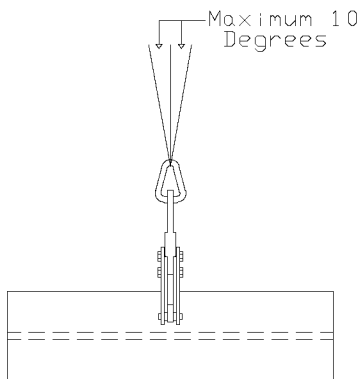

Figure 3: Never exceed ten degrees (10°) side loading with a VL-BC model or VBC model clamp.
5. Never exceed ten degrees (10°) side loading with a VL-BC model or VBC model clamp (Fig. 3).
- Never exceed ten degrees (10°) side loading with a VL-BC model clamp (Fig. 3).